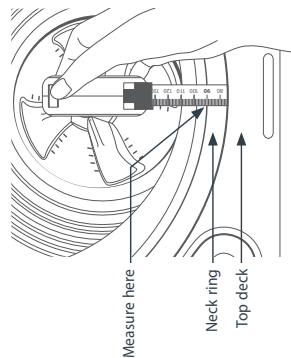

Fig.6 Measure at the front of the machine
- 5 At the front of the machine, slide the end of a tape measure between the topdeck and the neck ring, until it touches the inside front of the main cabinet (Fig.6). Accurately measure the distance from the inside of the cabinet to the inner most edge of the neck ring.